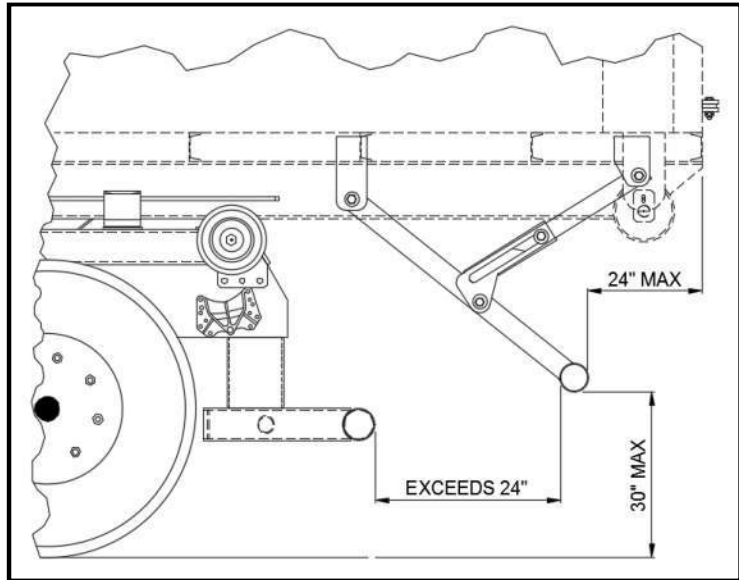

Figure 1
1. Review all directions and diagrams provided before starting bumper installation. Typically, a folding bumper is needed when the rear of the container extends beyond the back of the truck such that the distance between the truck bumper and container rear exceeds 24" (See Figure 1).
Office of Motor Carrier Safety (OMCS) Regulation 393.86 requires that no bumper be located more than 30" off the ground when the truck is empty, and the end of the bumper should not be located more than 24" from the extreme rear of the vehicle, including truck bodies (See Figure 1). The folding bumper will need to be used in conjunction with the Roller Assembly [Part No. 10H90] and Roller Mount Brackets Assembly [Part No. 10H90] for the container to function properly.